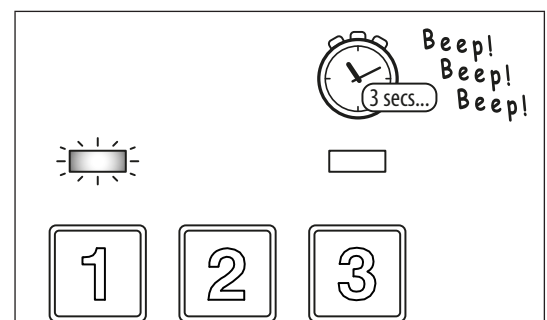

Fig. 102
2. The green data LED will flash once and the codelock will emit a series of 1 second interval beeps for the duration of the programmed relay time, see **Fig.102**.